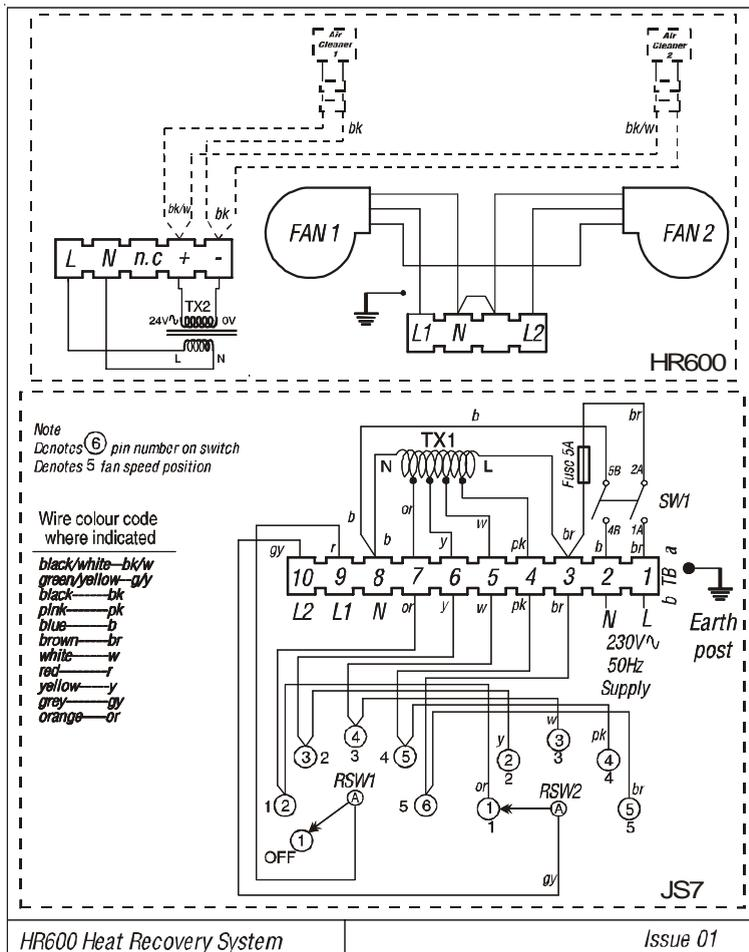

Fig. 2
- 2.5.7 The cable from the fused spur to the unit and via the Fan Speed Controller must be flat twin and earth in accordance with I.E.E. Regulations, and wired as detailed in Fig. 2.